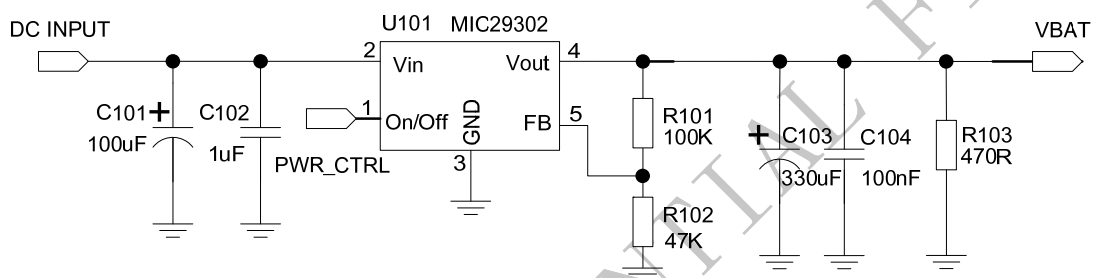

Figure 4: LDO power supply reference circuit
If the DC input voltage is +5V and customers do not care about the power efficiency, a high-current low-dropout regulator is recommended. Figure 4 is the reference design.
**Note:** To ensure a proper behavior of the regulator under light load, an extra minimum load (R103 in Figure 4) is required, because the current SIM8905A-R2 consumed is very small in sleep mode and power off mode. For more details about minimum load, please refer to specification of MIC29302.